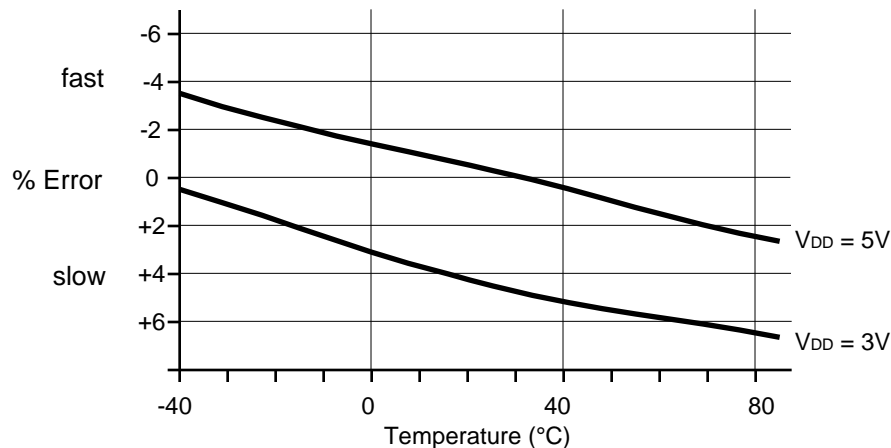

Figure 1. Average Frequency Error
5. Frequency error is both supply and temperature dependent, typically as shown in Figure 1 below.